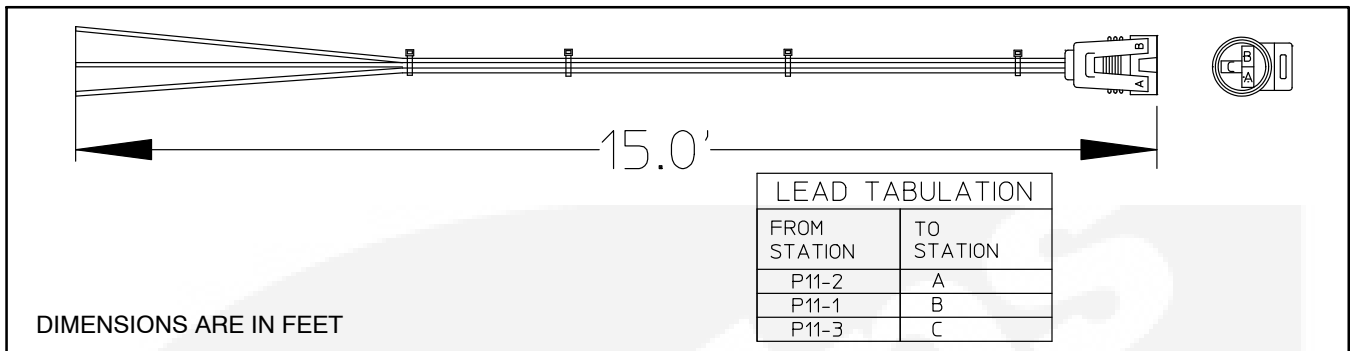

FIGURE 3-20. OIL PRESSURE SENSOR HARNESS
- a. Connect the engine harness wires marked P11-2 and P11-3 to the oil pressure harness wires marked J11-5, J11-6, and J11-17 (see Figure 3-20).